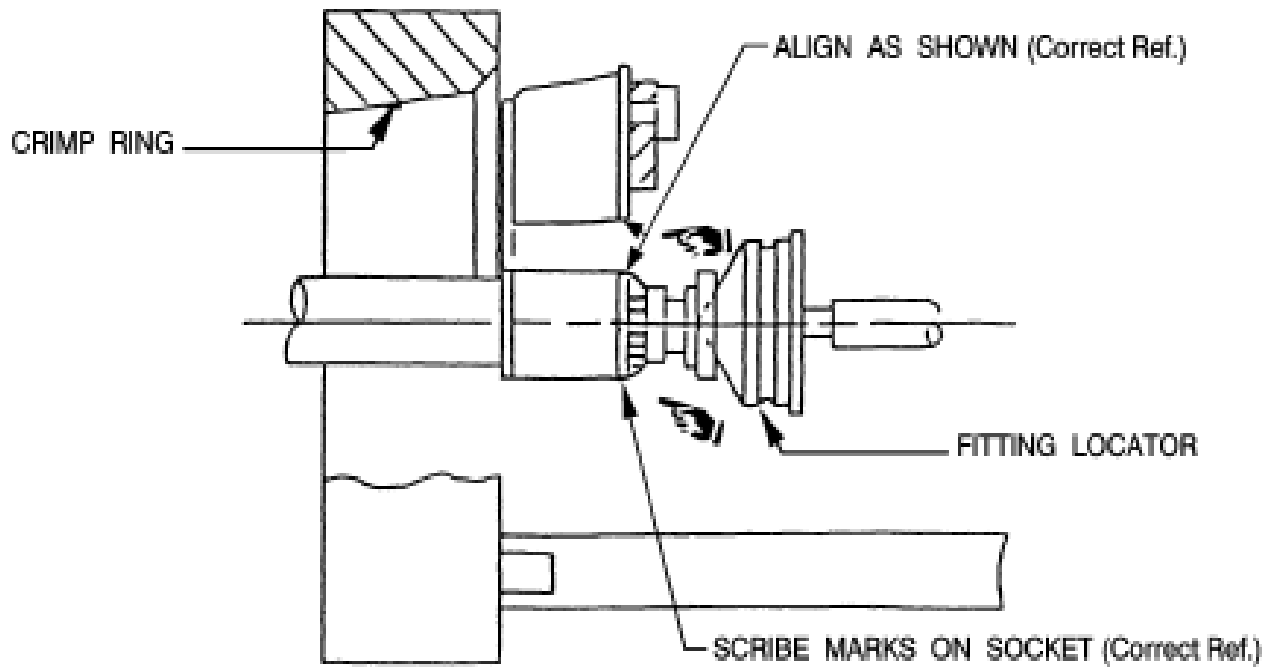

Figure 8. Aligning and Marking Hose
d. (AF) With crimp machine cylinder fully retracted, install the crimp die cage by sliding it downward against the pressure plate until the back of the crimp die cage and the bolt on the back of the crimp die cage is seated in the slot at the top of the pressure plate.
e. (AF) Lubricate crimp ring where metal to metal contact is made with Anti-Seize compound MIL-A-907E or equivalent (Figure 8).
f. (AF) Install fitting on hose until bottomed.
g. (AF) Adjust the fitting locator so that when the assembly is inserted, the socket scribe mark is lined up with edge of the dies (Figure 8).